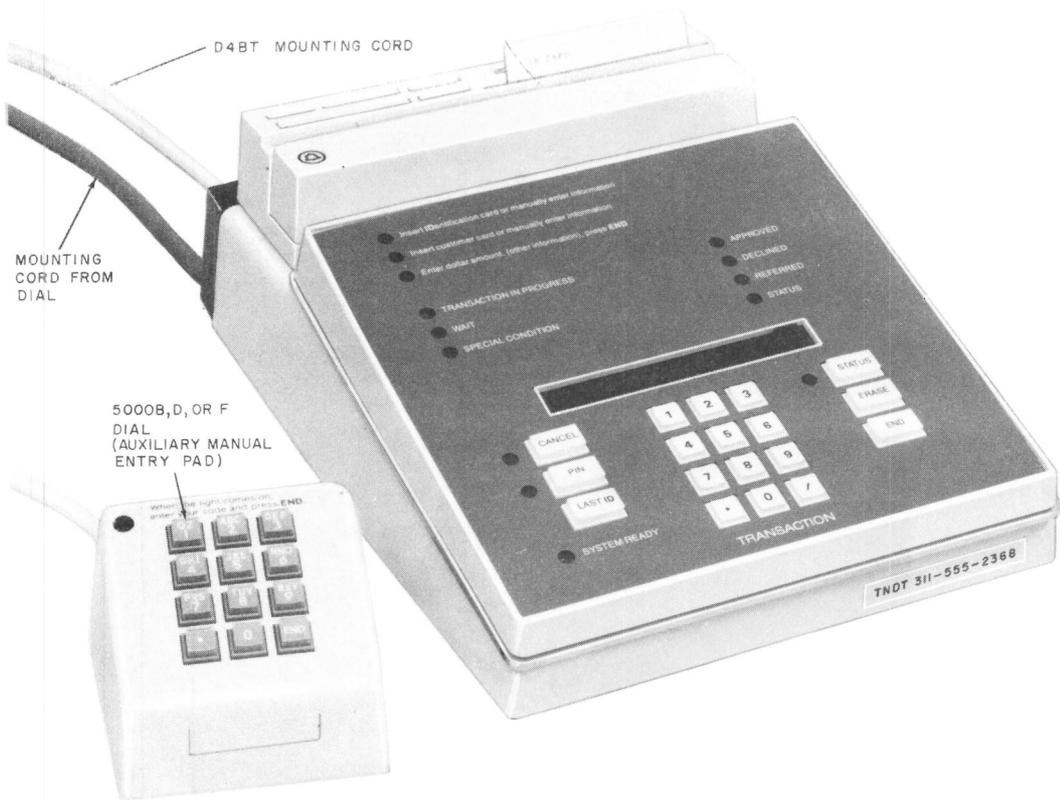

Fig. 8—5000A Transaction III Terminal Set With 5000B, D, or F Dial Installed
B. Personal Identification Number (PIN) (Provided by the Addition of an Auxiliary Entry Pad (Fig. 8)